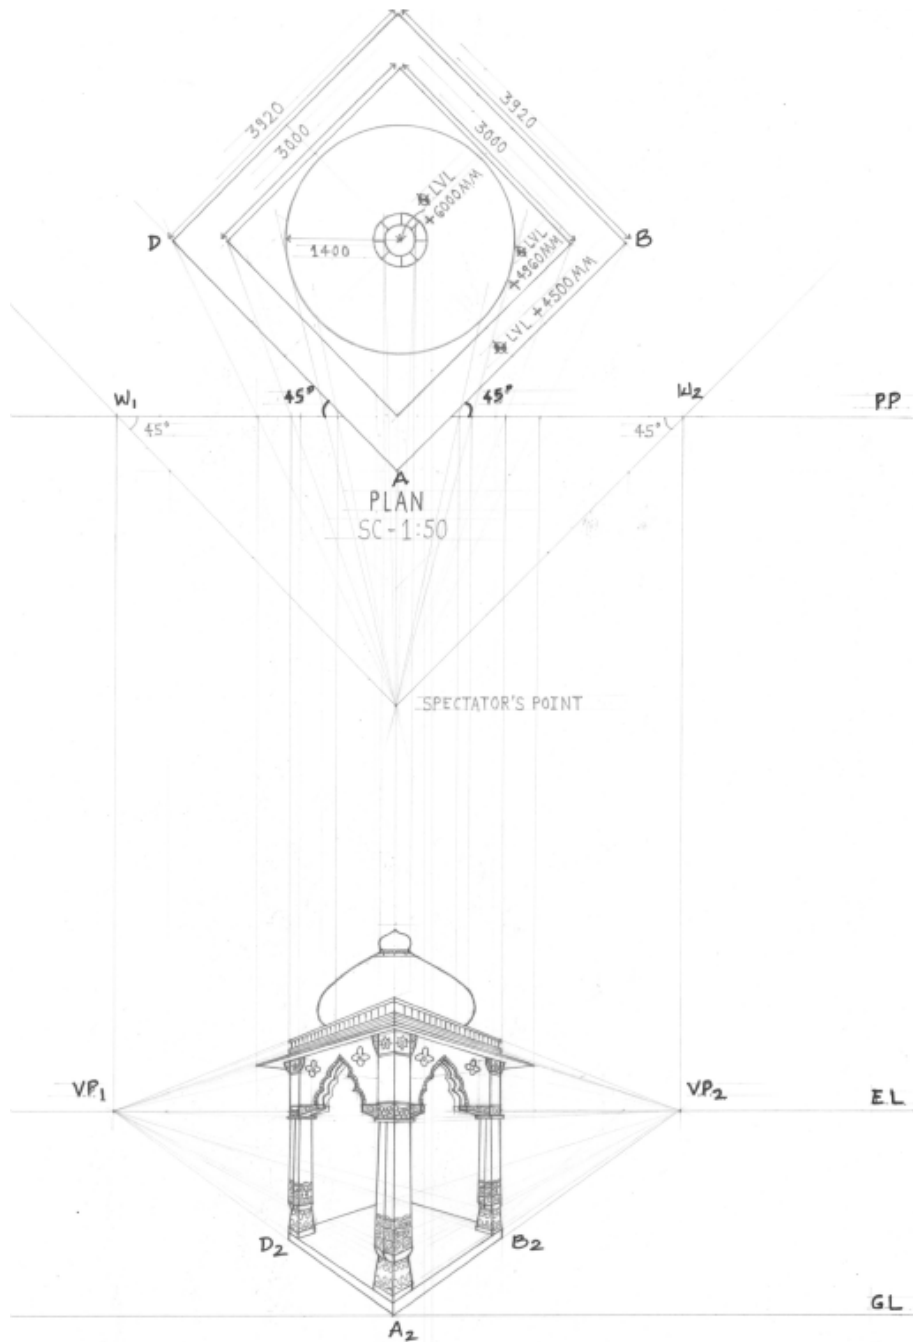

Fig 5.14 Monument in Two Point Perspective
1. Assume a line indicating Picture Plane (PP). Object is kept on the ground hence its plan is drawn on line PP. object is making an angle of 30 degree and 60 degrees with the picture plane.
6. From S join all the points of object up to PP and then project them vertically downward up to ground level (GL).
7. Point A touches the PP hence true height and perspective height of this point will be same. Transfer true height of the object of this line and converge them to vanishing points V1 and V2. These converging lines cut vertical projections (upper and lower points of object). Hence all the other sides are drawn **Fig 5.14.**